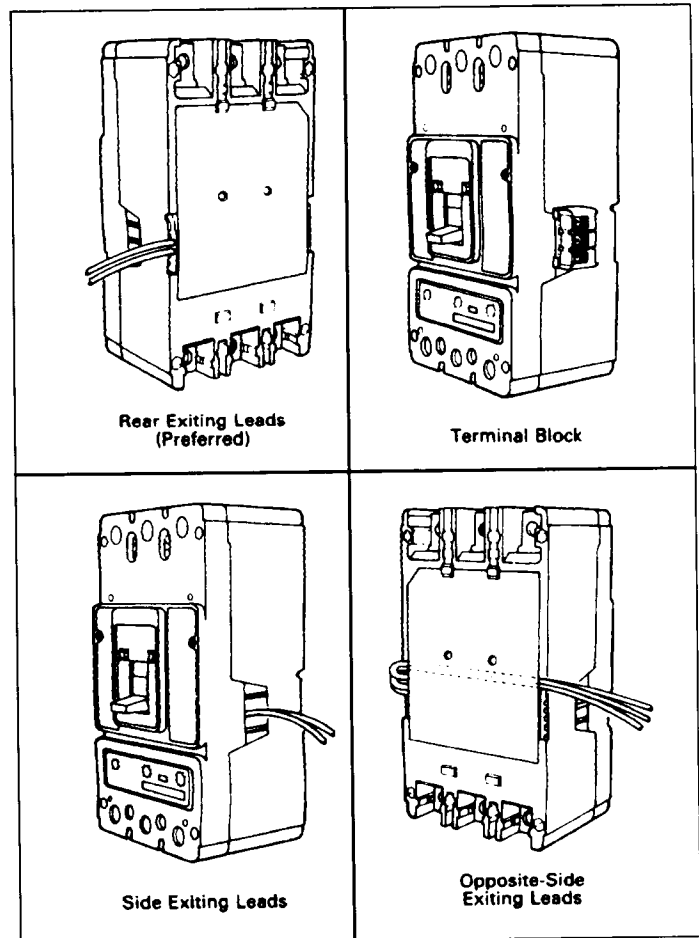

Fig. 2-5 Accessory Wiring Options
- 2-11. Route wiring to meet installation requirements (Fig. 2-5). if required, complete routing of leads to opposite side through rear wiring trough.